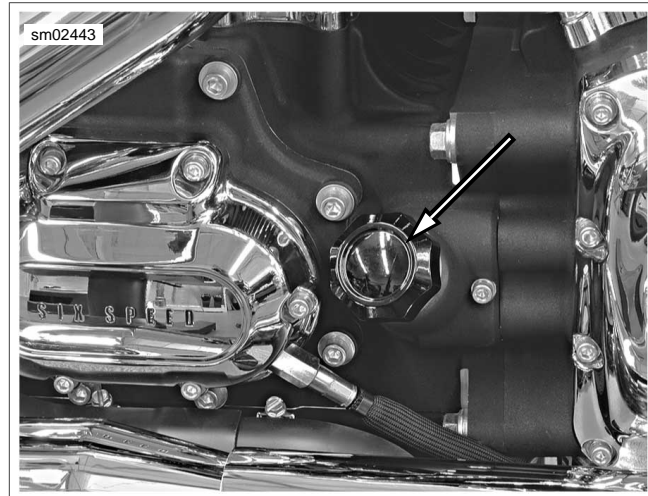

Figure 1-1. Checking Engine Oil Level
1. See Figure 1-1. Unscrew and remove engine oil filler cap with attached dipstick. Wipe dipstick clean.